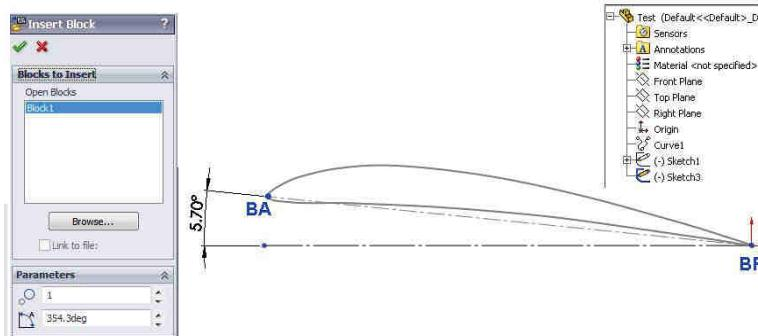

Fig. 16.6
- Click **Tools → Blocks → Insert**; va apărea fereastra **Insert Block**, fig. 16.6.
- Click **✓**; profilul va fi plasat la unghiul de incidență  $\alpha_{\infty}=5.7$  grade, fig. 16.6.
- Click **Tools → Blocks → Insert**; the **Insert Block** window will appear, fig. 16.6.
- Click **✓**; the profile is disposed at an incidence angle  $\alpha_{\infty}=5.7$  grd, fig. 16.6.